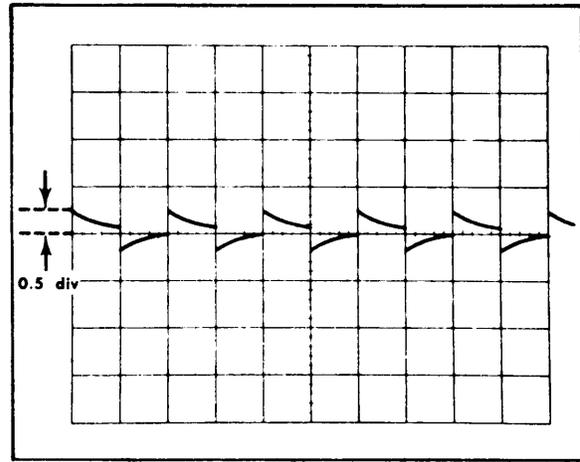

Fig. 5-20. Typical CRT display when checking calibrator current.
- e. CHECK-CRT display is 0.5 division in amplitude (ten milliamperes; see Fig. 5-20).